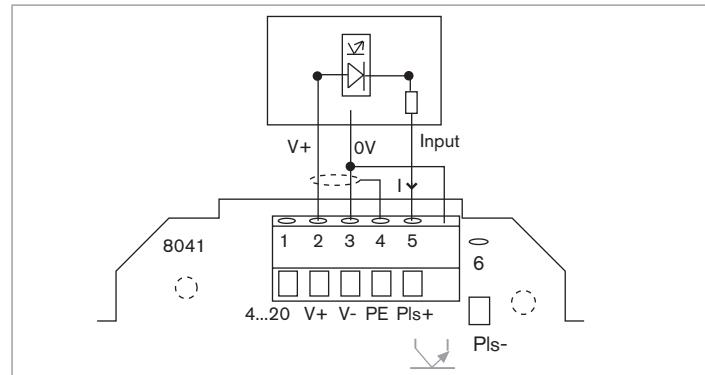

Fig. 19 : Frequency output connection to a programmable controller in NPN mode
- to a programmable controller in PNP mode or NPN mode (see Fig. 19);